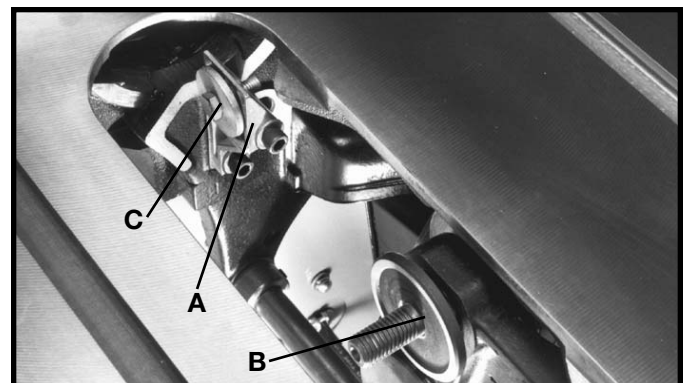
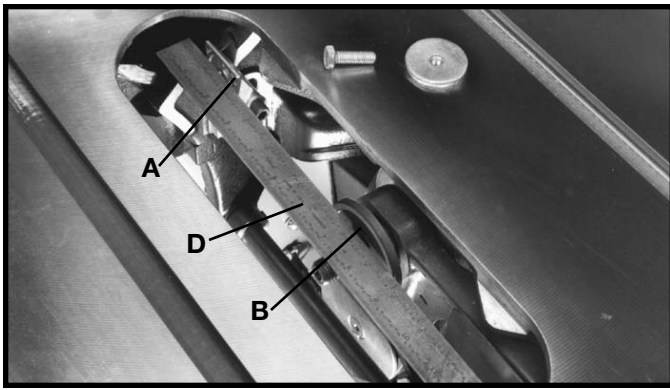
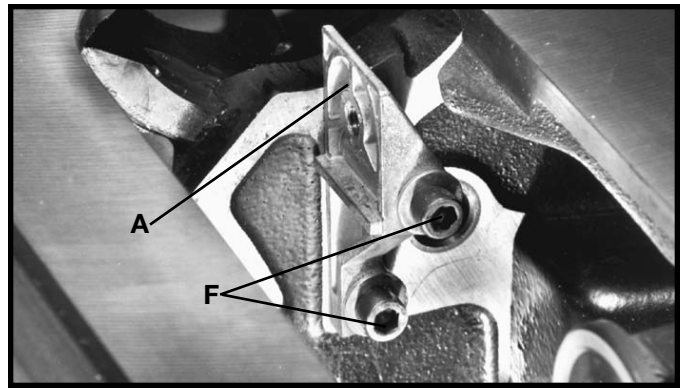

Fig. 15
Fig. 16
Fig. 17
2. The inside splitter mounting bracket (A) Fig. 15, is assembled to the inside of the saw and aligned with the inside blade flange (B) at the factory.
3. To check the alignment, remove screw and fastener plate (C) Fig. 15. Using a straight edge (D) Fig. 16, check to see if the splitter bracket (A) is aligned with the inside blade flange (B). Check both the top and bottom of bracket (A) with the top and bottom of flange (B).
4. If an adjustment is necessary, loosen two screws (F) Fig. 17, and adjust splitter bracket (A) until it is aligned with the inside blade flange (B) Fig. 15. Tighten two screws (F). Loosely assemble screw and fastener plate (C), which were removed in STEP 3.